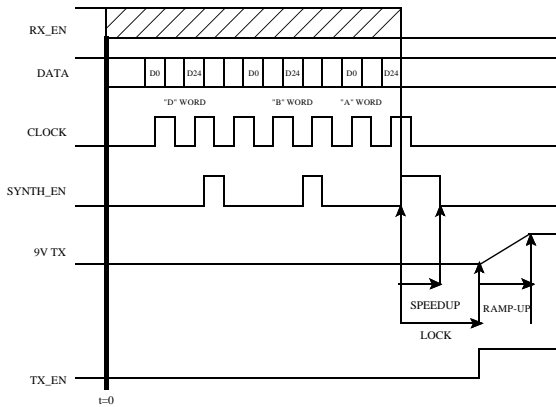

Figure 3-6 RX TO TX TIMING DIAGRAM
1. Synthesizer is loaded (24-bit D, B and A0). Refer to Figure 3-6.